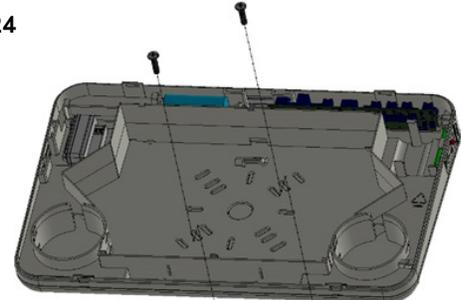

Figure 2
2. Remove center knockout in backplate and appropriate keyhole knockouts. Feed AC supply wires using screws provided center hole in backplate. Mount EXIT sign to junction box. See Figure 2.